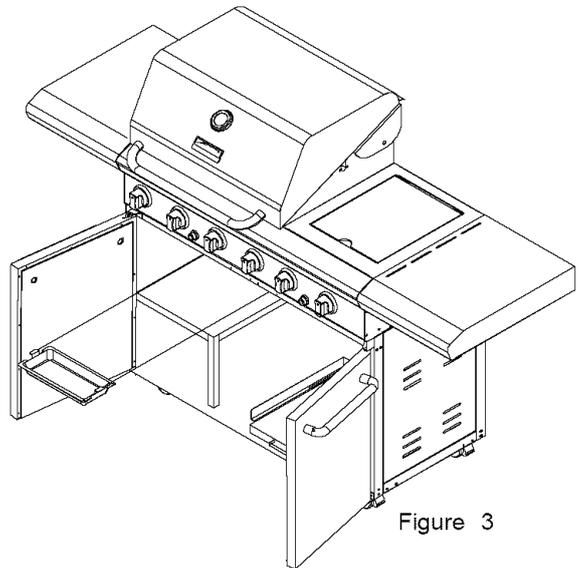

Figure 3
- Install Grease Receptacle under the Grease Draining Tray from the front of grill. (See figure 3).